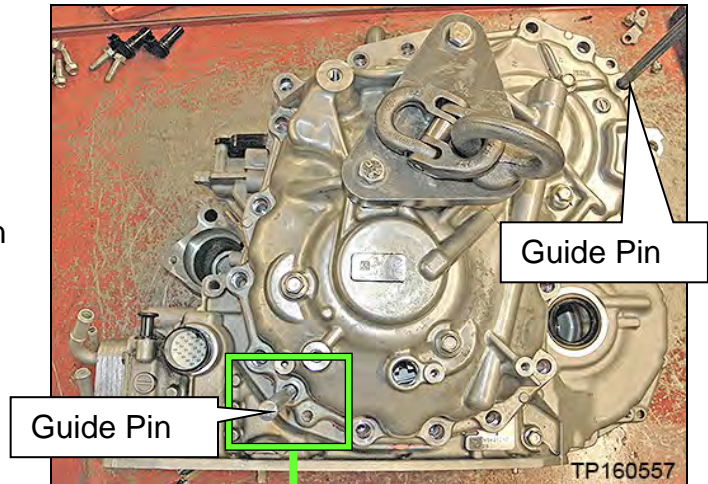
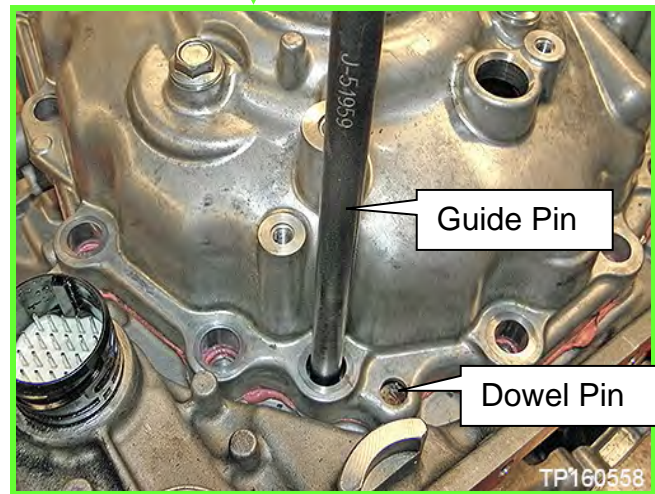

Figure 12F
Figure 13F
8. Install the two alignment Guide Pins (J-51959 - Guide Pins) as shown in Figure 12F and Figure 13F.
- Guide Pins must be placed next to dowel pins (Figure 13F).